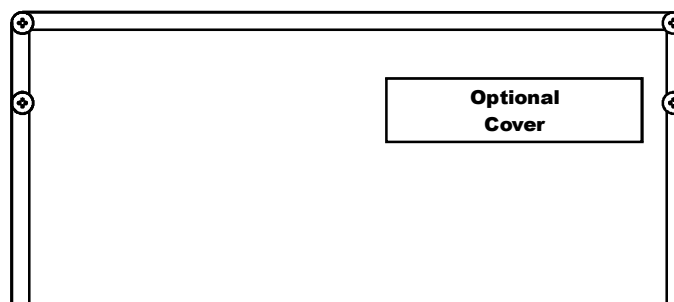

FIG. 3-9 OPTION LABEL COVER
1. The unit is capable of powering a maximum of four 350 ohm load cells/points. If more than four load cells/points are used, an external power supply is required. Figures 3-9, 3-10, Load cell/point connections (J1) shows how to connect a full six-wire hookup, a four-wire hookup, and an external excitation supply. Load cell/point cables are connected to J1 through a furnished mating plug, P1.
- Step 3. Use a phillips screw driver and remove the four (4) pan head machine screws that fasten the rear panel to the extrusion.
- Step 5. The Option Board is furnished with four mounting screws to secure it to the main board. The main board has pre-mounted standoffs which accept any of the Option Boards. (See Fig. 3-9)